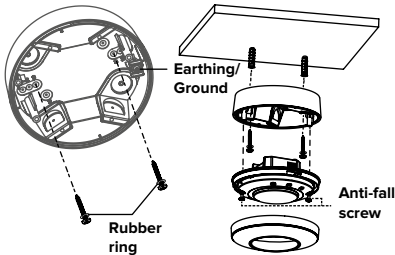

FIG. 13
3. For mounting on a ceiling panel, use the 2 round recesses in the housing and secure the housing with the 2 screws with rubber rings (FIG. 13).
4. Connect the wiring and secure the sensor in the housing with the anti-fall screws (FIG. 13).